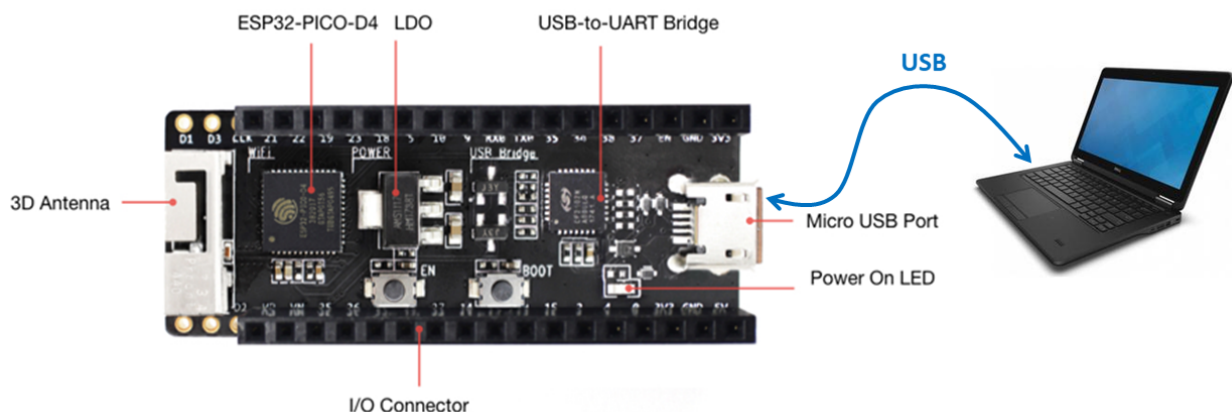

FIGURE 1.2 – ESP32-PICO-KIT board connections.
- Connect the ESP32 card to the computer via USB (cf. figure 1.2)